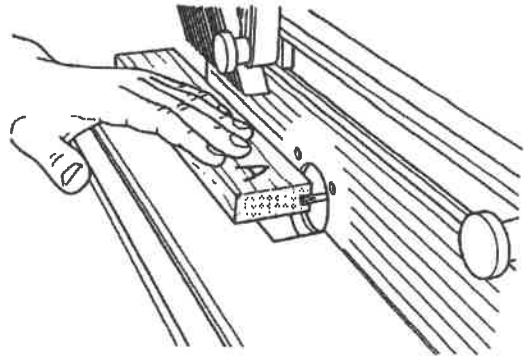

Fig. D-13
5. Place workpiece "A" against the slide and router bit as in Fig. D-13. Raise the bit to the center of the board. Do this by going up 1/2 the thickness of workpiece "A".